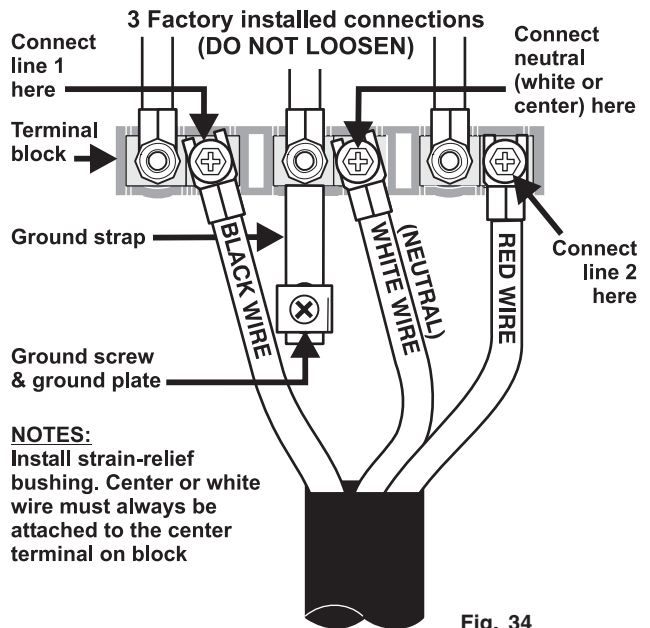

Fig. 34
OR **B** 3-Wire connection instructions (for existing installations ONLY See Fig. 34)
2. Insert the end connectors for Line 1, Line 2 and Neutral and tighten securely to the terminal block (See Fig. 34). **IMPORTANT NOTE:** DO NOT LOOSEN the factory installed nut connections which secure the range wiring to the terminal block. Electrical failure or loss of electrical connection may occur if these 3 nuts are loosened or removed.
A ground strap is installed on this range which connects the center terminal of the terminal block (neutral) to the range chassis. The ground strap is connected to the range by the center, lowest screw (See Fig. 34). The ground strap must not be removed unless national or local codes do not permit use of ground strap.